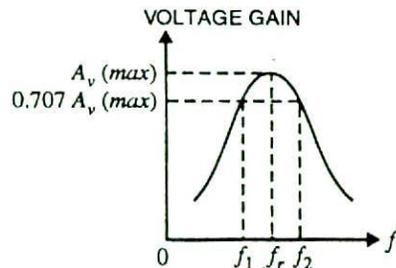

Fig. 17.7
The value of  $Z_C$  and hence gain strongly depends upon frequency in the tuned amplifier. As  $Z_C$  is maximum at resonant frequency, therefore, voltage gain will be maximum at this frequency. The value of  $Z_C$  and gain decrease as the frequency is varied above and below the resonant frequency. Fig. 17.7 shows the frequency response of a tuned amplifier. It is clear that voltage gain is maximum at resonant frequency and falls off as the frequency is varied in either direction from resonance.
**Bandwidth.** The range of frequencies at which the voltage gain of the tuned amplifier falls to 70.7 % of the maximum gain is called its *bandwidth*. Referring to Fig. 17.7, the bandwidth of tuned amplifier is  $f_1 - f_2$ . The amplifier will amplify nicely any signal in this frequency range. The bandwidth of tuned amplifier depends upon the value of  $Q$  of  $LC$  circuit *i.e.* upon the sharpness of the frequency response. The greater the value of  $Q$  of tuned circuit, the lesser is the bandwidth of the amplifier and *vice-versa*. In practice, the value of  $Q$  of  $LC$  circuit is made such so as to permit the amplification of desired narrow band of high frequencies.